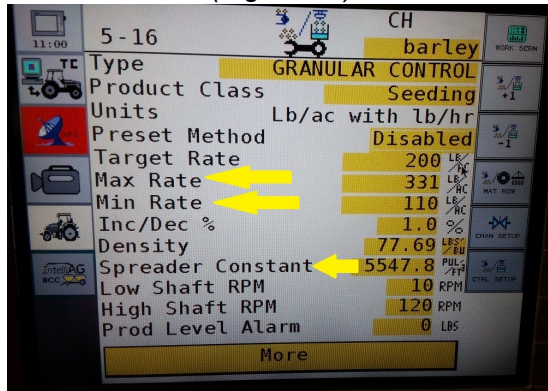

Figure 15
Step 6. Set **Max Rate**. This is a top limit for the plus (+) button as you are operating in field. You cannot adjust rate above this number. (Figure 15)